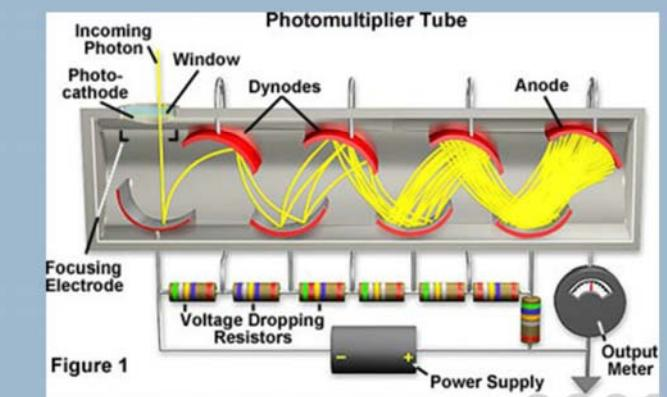

Figure 1
- Shown the Fig.1 graph in TG-51. Explain the graph? How do you convert depth ionization to depth dose? For e- and for photon beams? What are the correction factors involved?
- If Given Figure 1 from TG-51 (just the e- curve). Know what it is. Know about finding beam quality of electron field and R50. How do you measure it?